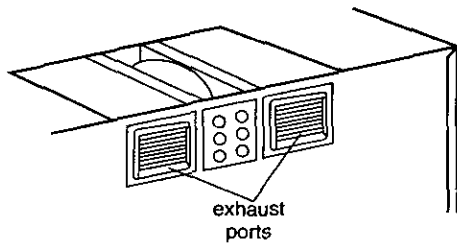

Figure 15
6. Place blower unit back into cabinet. Check that the exhaust ports face towards the rear of the cabinet. See Figure 15.